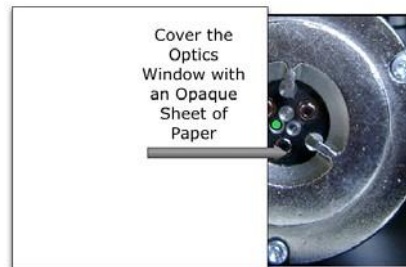

Fig 7-1: Placement of Magnetic Collar and Testing with Test Lamp
2. If it is necessary to isolate the detector fire relay from the alarm system, apply the magnetic collar over the enclosure as shown in Figure 7-1. Placing the collar over the enclosure as shown allows the fire relay contacts to remain in the non-alarm state during testing.